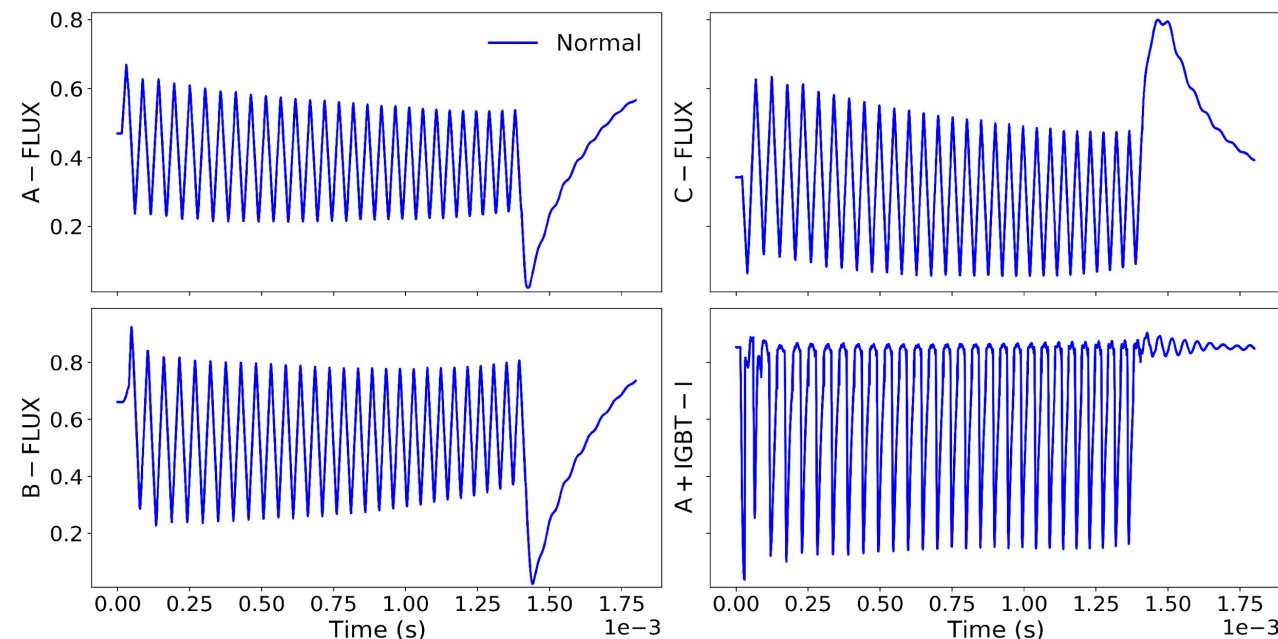

Figure 5: Different representation of a normal example (A, B, and C FLUX, and A+IGBT-I). The waveforms are normalized between 0 and 1.
- Three magnetic flux density in the phases A, B, and C of the resonant circuit (Figure 5 shows an example)